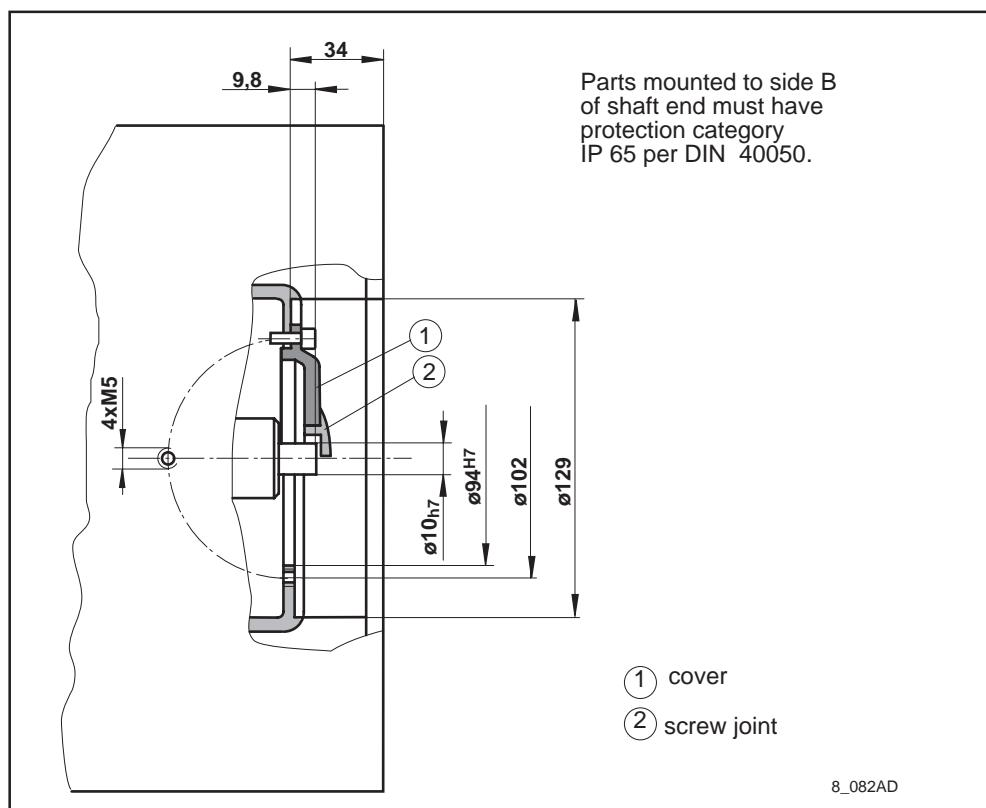

Fig. 8.8: Side-B shaft end 2AD160
(12) Motor blower connection: terminal box with cable screw joint
(13) Mounting distance (minimum for pulling in ventilating air)
(14) B-side shaft end: see Fig. 8.8 for dimensions
(15) air baffle